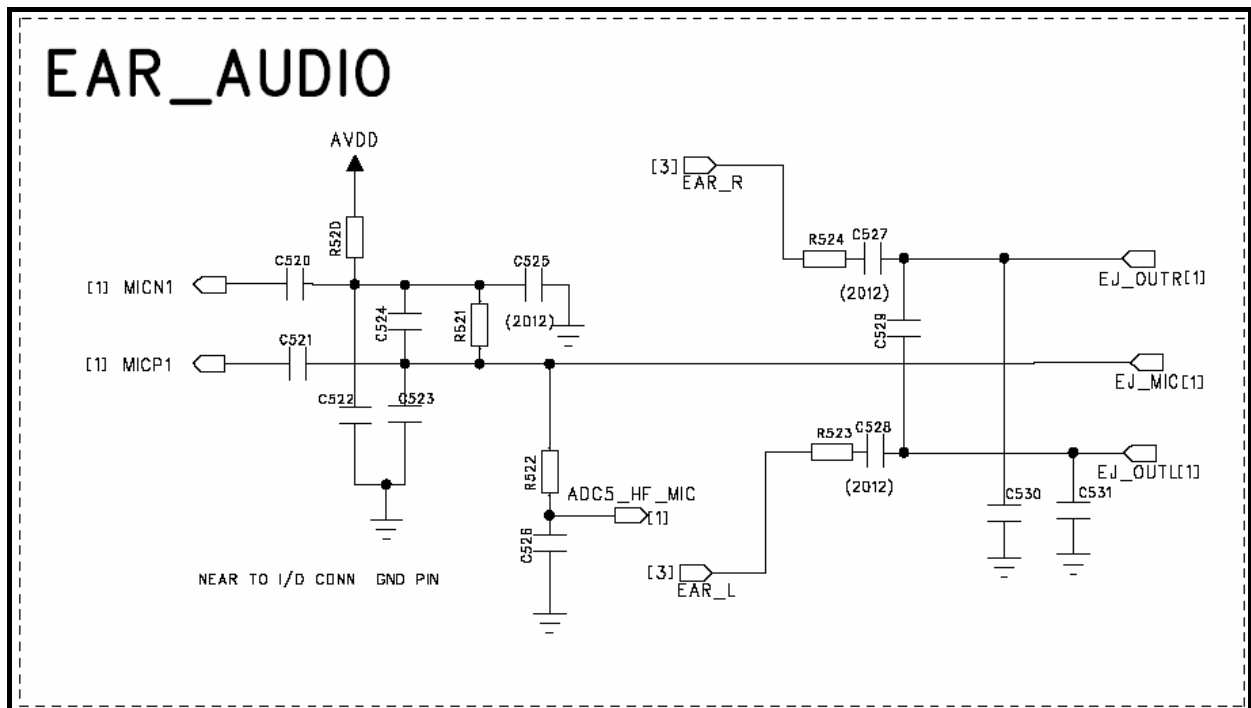

Figure 31. Headset Circuit diagram.
The Figure 31 is shown the Headset Circuit diagram. EJ\_Mic is input and EJ\_OUTR(L) is output.